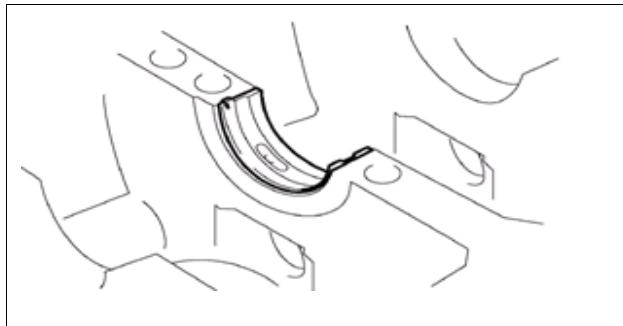

Figure 1-60-24
- ◎ Place the upper crankshaft bearing orderly (See Figure 1-60-24).